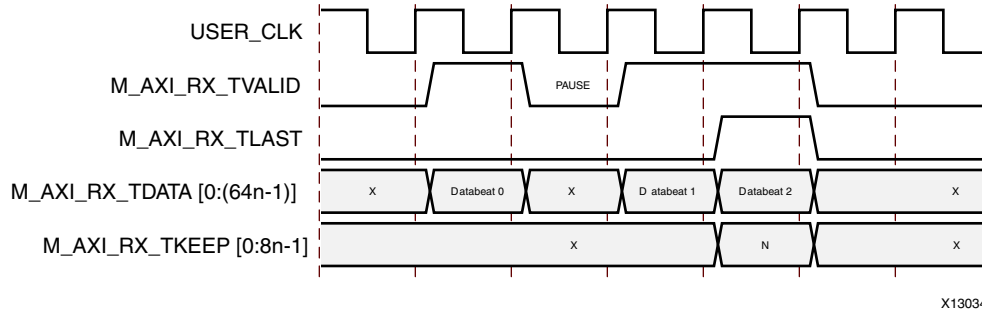

Figure 2-12: Data Reception with Pause
**Figure 2-12** shows an example of  $3n$  bytes of received data interrupted by a pause. Data is presented on the `M_AXI_RX_TDATA` bus. When the first  $n$  bytes are placed on the bus, the `M_AXI_RX_TVALID` output is asserted to indicate that data is ready for the user application. On the clock cycle following the first data beat, the core deasserts `M_AXI_RX_TVALID`, indicating to the user application that there is a pause in the data flow.